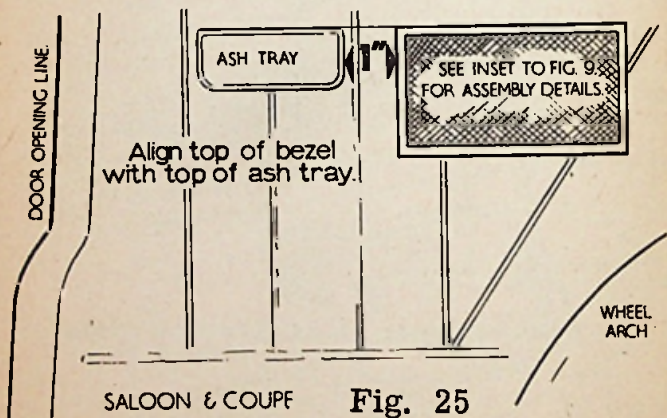

Fig. 25
- (1) Lift out rear seat cushion
- (2) Detach right hand rear side trim pad and cubby box spring clips on rear.
- (3) Position speaker bezel to dimension shown in Fig. 25 and drill four holes for bezel stubs 5/32" dia.
- (4) Mark with soft pencil the outline of bezel on trim pad and cut a rectangular aperture 3/8" less all round inside the marked area.
- (5) Fit bezel to front of trim pad and speaker to rear secure with fixings provided.